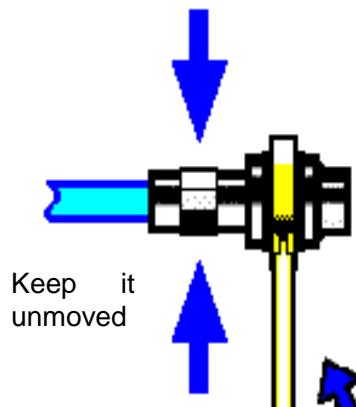

Fig. 3.6 Completion of Final Connection with a Torque Wrench
Step 3. As shown in Figure 3.6, use a torque wrench to complete the final connection. It should be noted that the torque wrench should not exceed the starting kick point. An auxiliary wrench can be used to prevent the connectors from rotation.